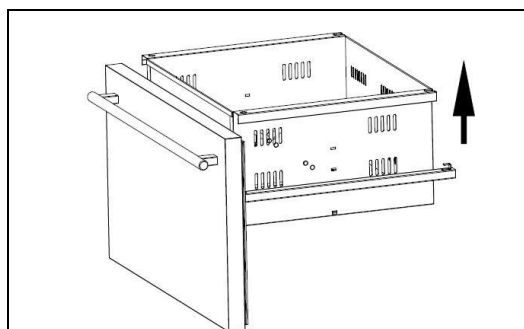
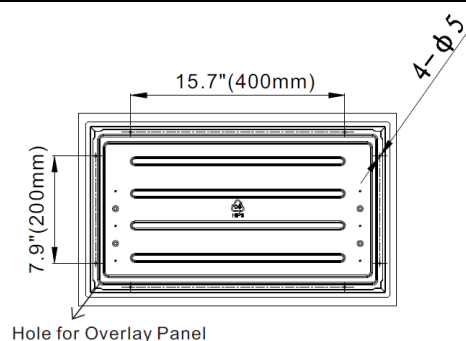

Fig.1
Fig.2
2. Follow these steps to install the left and right permanent divider seats on the upper drawer (figure 1) and lower drawer (figure 2)
3. Drill the 8 holes shown by using a 9/50" drill bit on the 4 sides of the drawer door front. (Fig.2)